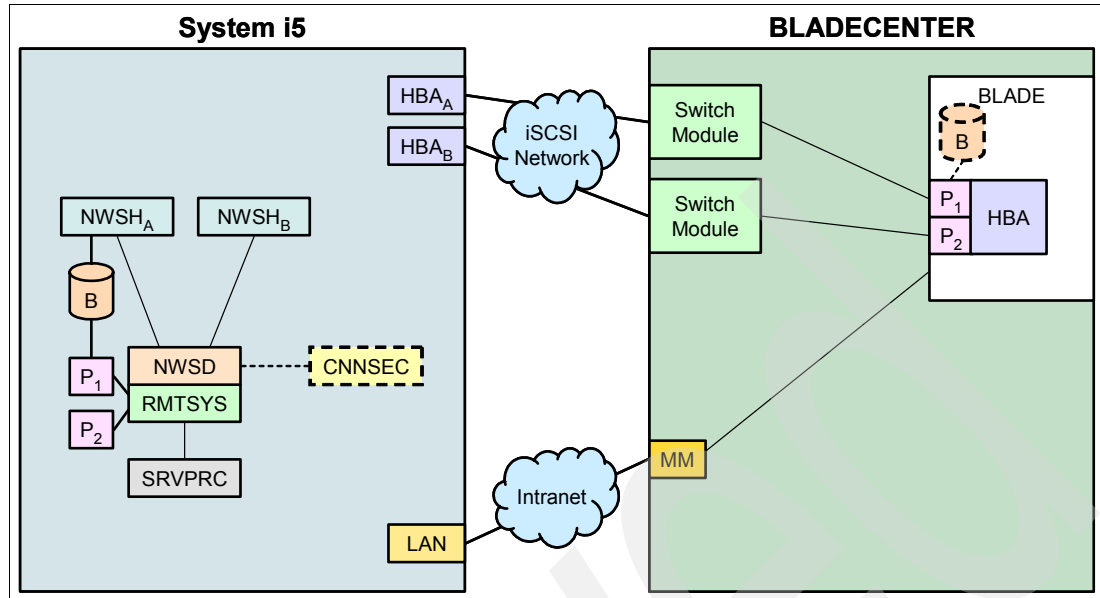

Figure 9-15 Configuration 2 : 1 : 2 : 1 : B
Figure 9-15 on page 356 shows a configuration where you are adding bandwidth to a Blade server by adding an additional target-initiator HBA pair. This effectively doubles the bandwidth between the Blade server and i5/OS partition. You might want to add bandwidth if the Blade server is running an I/O intensive application such as Microsoft SQL server, or if you are heavily using a Virtual Ethernet LAN connection on the Blade server.
In Figure 9-15, note the following points:
- ▶ One of the initiator HBA's ports on the Blade server must be identified as the boot port. The boot port is the initiator HBA port where the hosted server looks for a bootable disk drive, or in this case, a virtual disk containing the Windows operating system. For example, in Figure 9-15, P₁ has been specified as the boot port in the RMTSYS configuration object. If there were only one connected initiator HBA port in the hosted server, this port would automatically be deployed as the boot port.